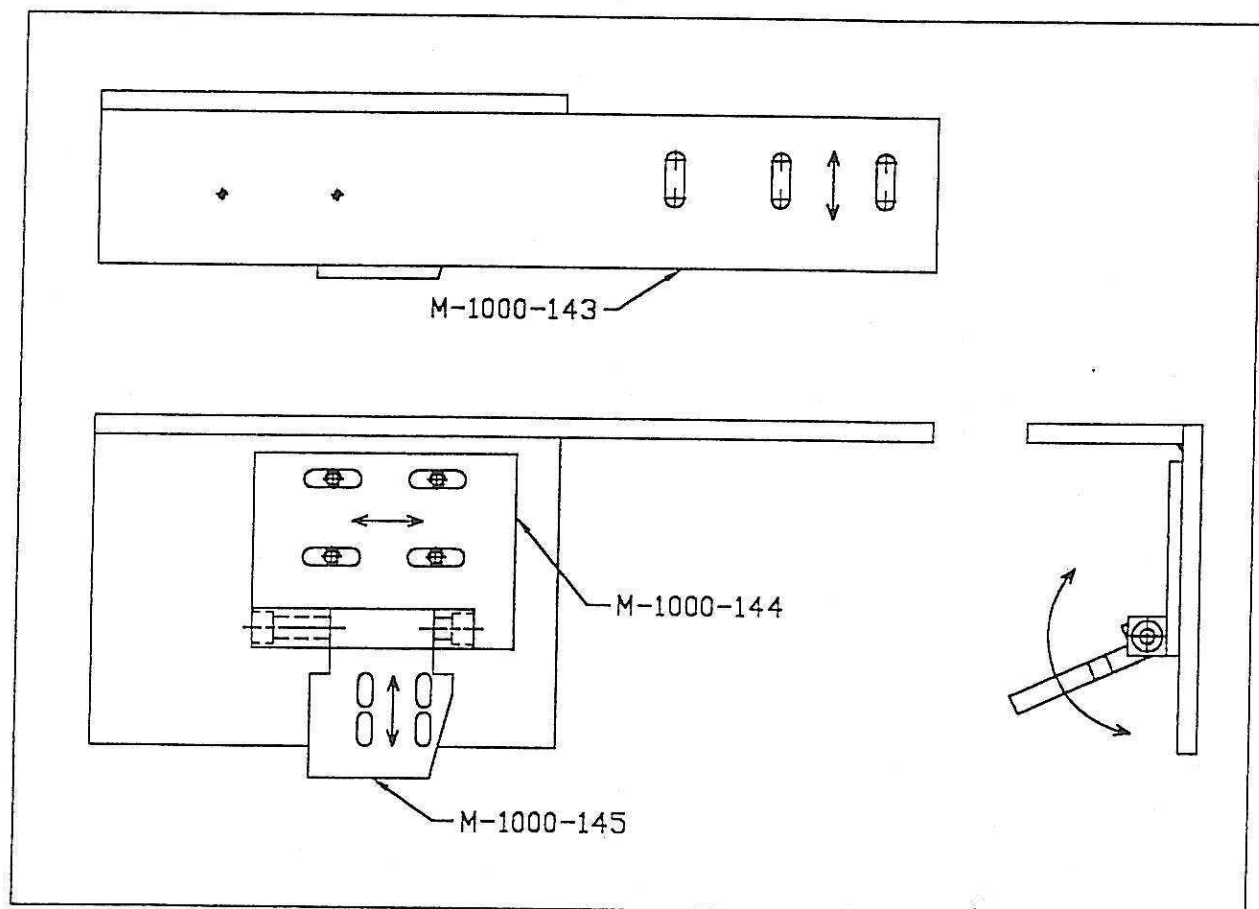

FIG.4
- 1- THE THREE COMPONENTS TO MOVE TO PROPER ALIGNMENT LOCATION ARE M-1000-143, M-1000-144 AND M-1000-145. SEE FIG.4 FOR ASSEMBLY LAYOUT.